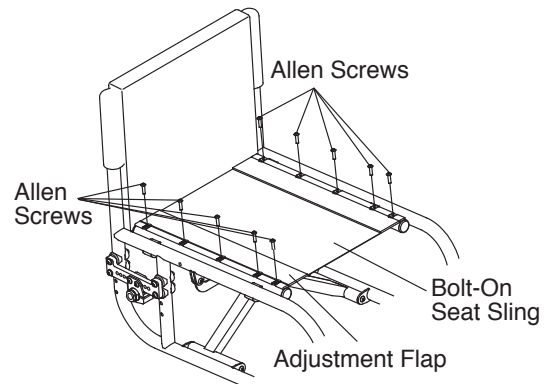

Figure 42
2. Remove all Allen Screws that attach the seat upholstery to the chair frame. See Figure 42.